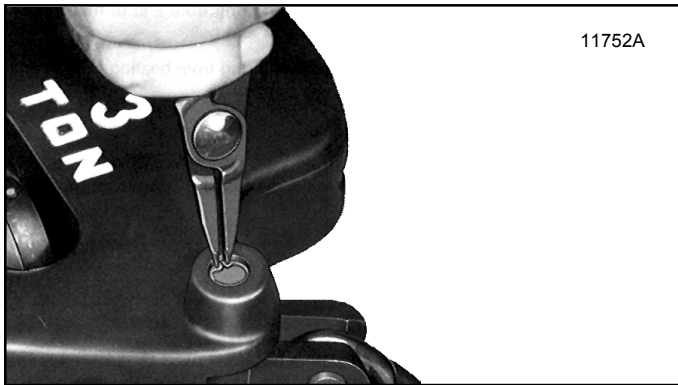
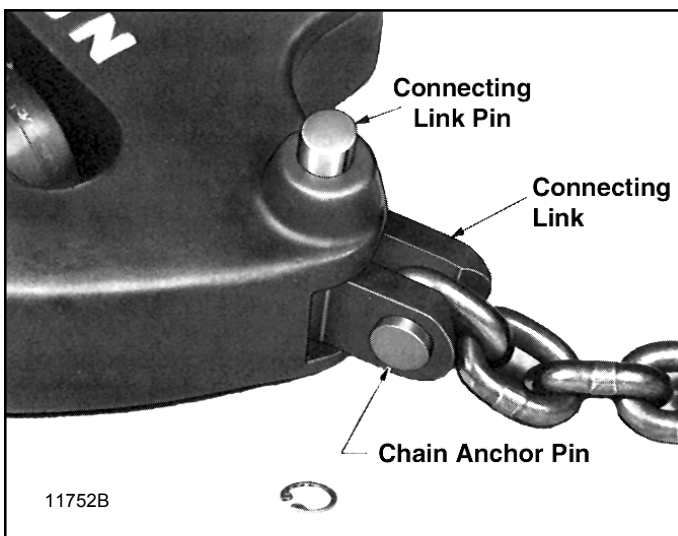

Figure 7-27. Removing Retaining Ring From Bore of Connecting Link Pin - Triple Reeved Lower Block Assembly
Figure 7-28. Removing Connecting Link Pin From Triple Reeved Lower Block Assembly
- (1) Remove chain sprocket from lower block following procedure for double reeved models described in Paragraph 7-5.b.(1) above.
- (2) To disconnect end of chain anchored to lower block, remove retaining ring from pin bore (Figure 7-27). Push connecting link pin from bore by pressing through hole provided in opposite side of block (Figure 7-28). Chain connecting link is now free and can be further disassembled for inspection.
- (3) To remove hook from lower block body , first drive grooved pin from hook nut. Then hold nut from turning using drift punch and rotate hook to unscrew it from nut. Separate hook, shroud and thrust washer from body. Note that bearing surface of washer faces nut.
- (4) To remove chain sprocket from upper suspension hanger, first remove hanger as outlined in Paragraph 7-2.a.(4). With hanger removed, push sprocket pin from hanger and sprocket. Note: Sprocket pin must